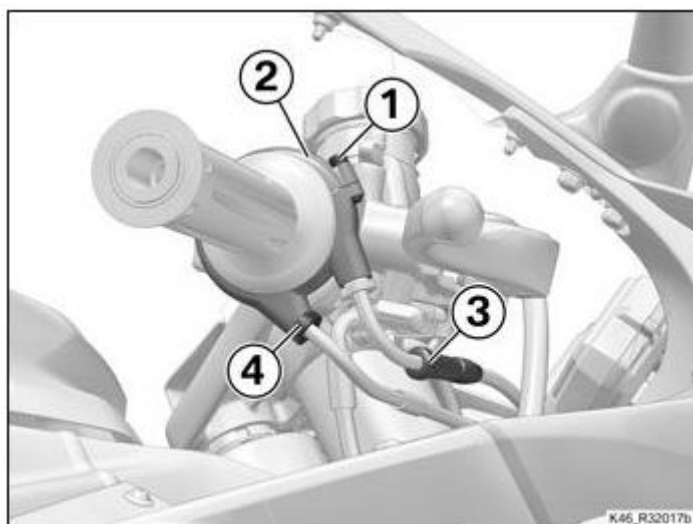

Fig. 10
- Remove the screw (1) and remove the cover (2)
- Loosen the retaining nut (Figure 10)